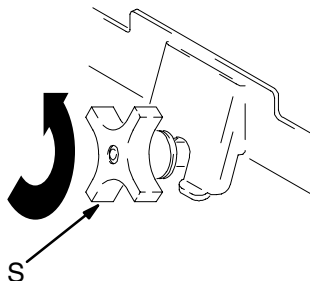

Fig. 4
2. Loosen knob (S) by turning it counter-clockwise, relieving tension on the bracket. See Fig. 4.
3. Push knob down. See Fig. 4.